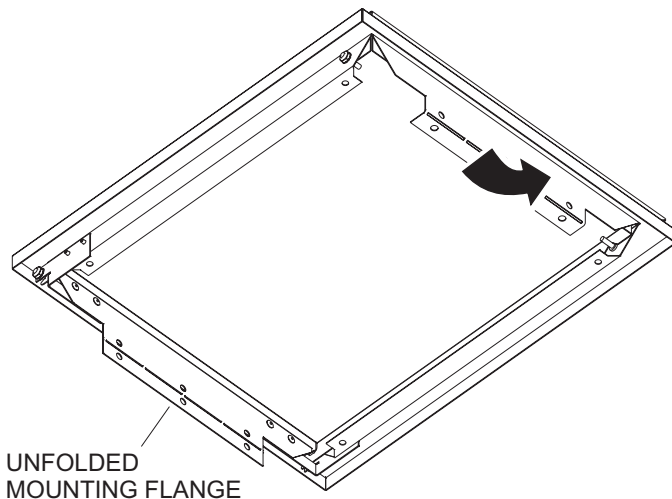

Figure 2
2. Before installing built-in surround, peel protective film from all parts, remove the lid, and unfold mounting flanges on base. See Figure 2.